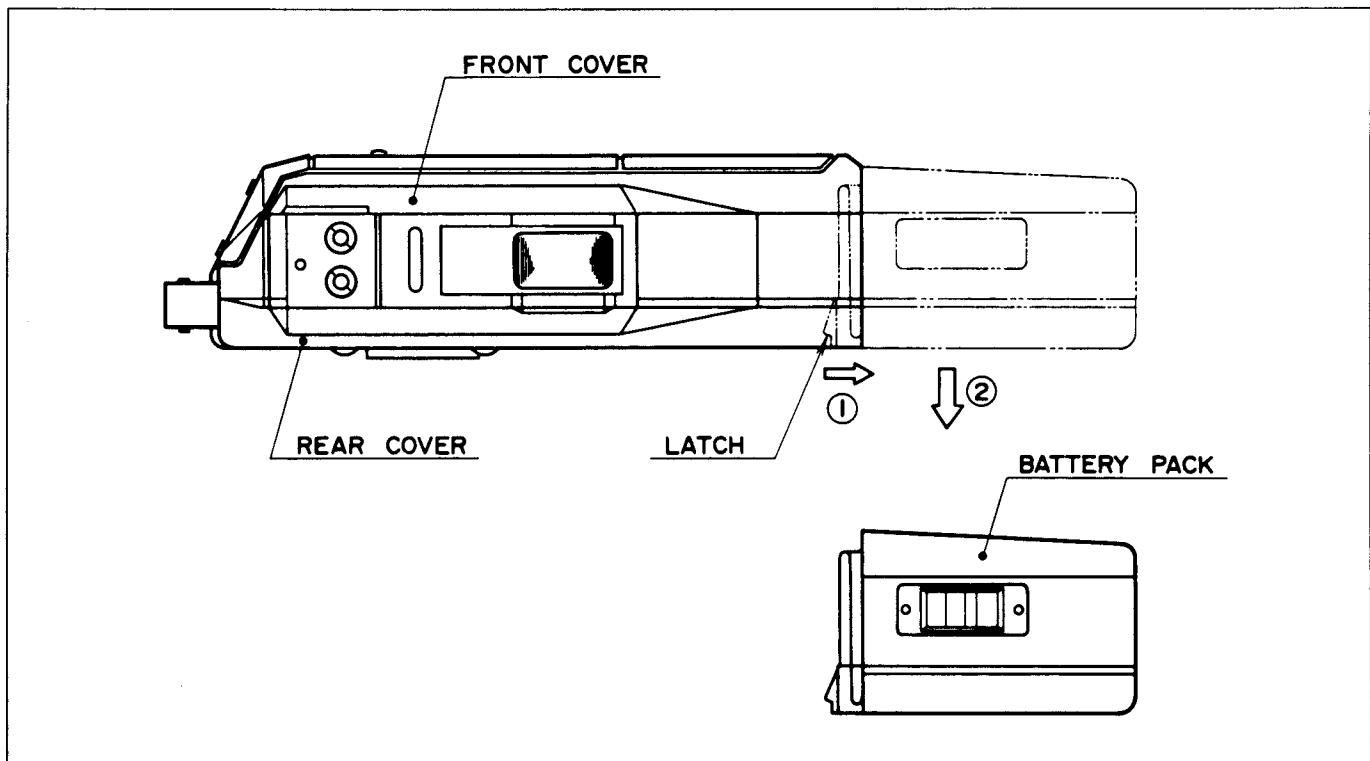

FIGURE 14 - DISASSEMBLY
**Disassembly Procedure (See Figure 14):****CAUTION**